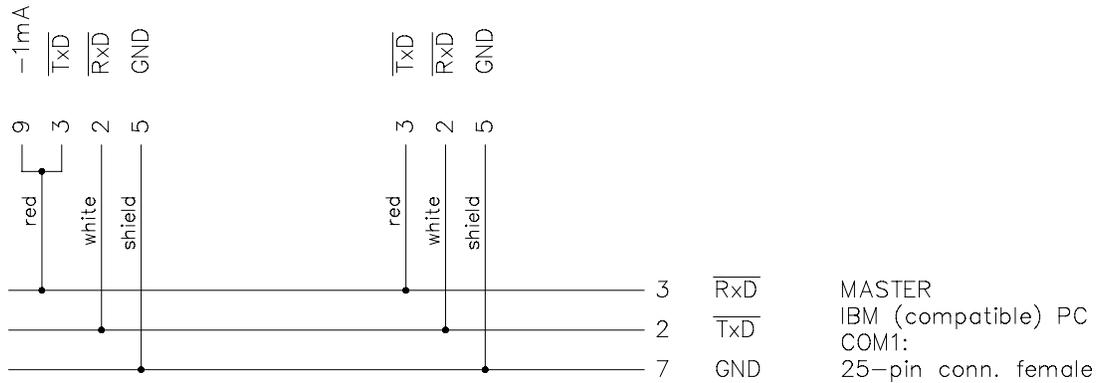

Figure 15 Connection between FSC system and FSC user station:
- Using a 25-pin connector without hardware handshake (see Figure 15).